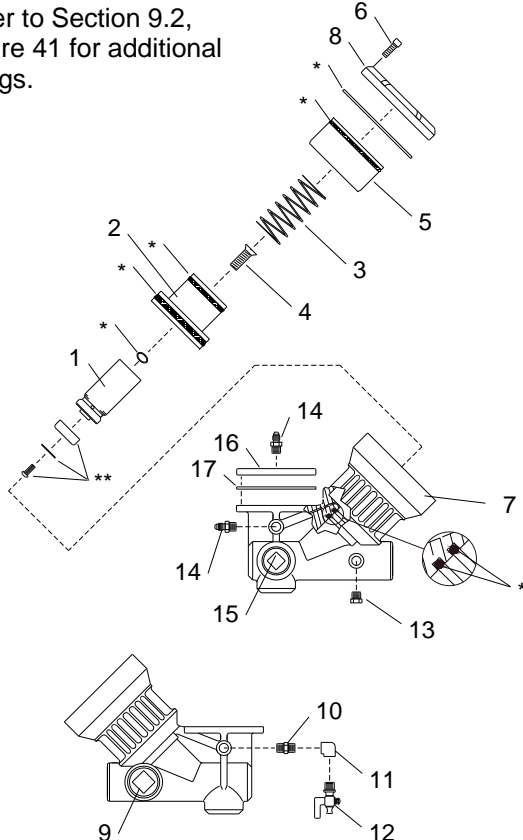

Figure 49
9.6 Millennium Inlet Valve, Figure 49